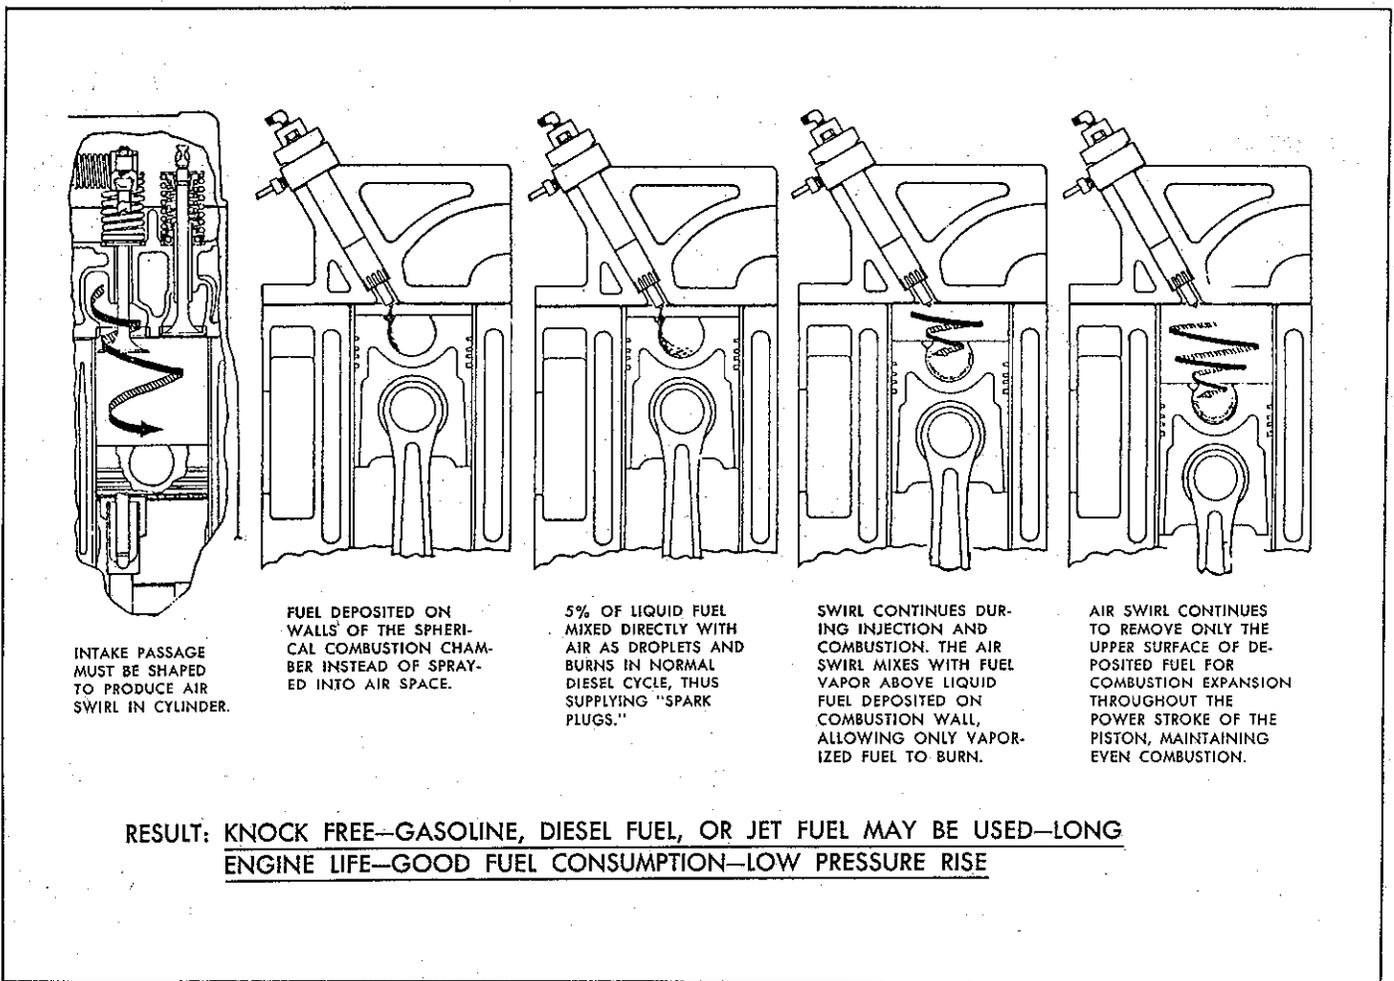

Figure 6. Continental Hypercycle Multifuel Combustion Principle
i. The Hypercycle Combustion Process. (Figure 6) The Hypercycle combustion process enables the LDS-465-1 engine to perform successfully with a wide variety of fuels having